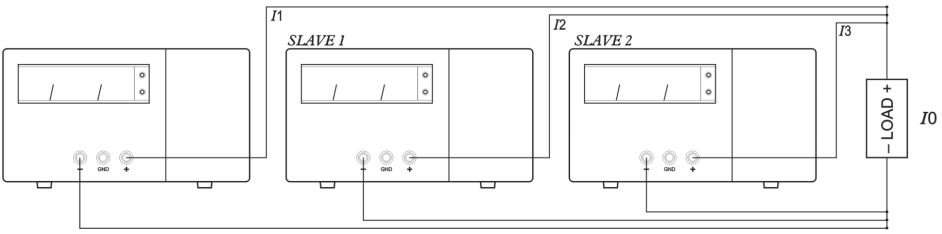

Figure 6
- Connect the output terminals of each of the units to the load as shown in Figure 6. For proper performance, use all cables of same length and thickness.